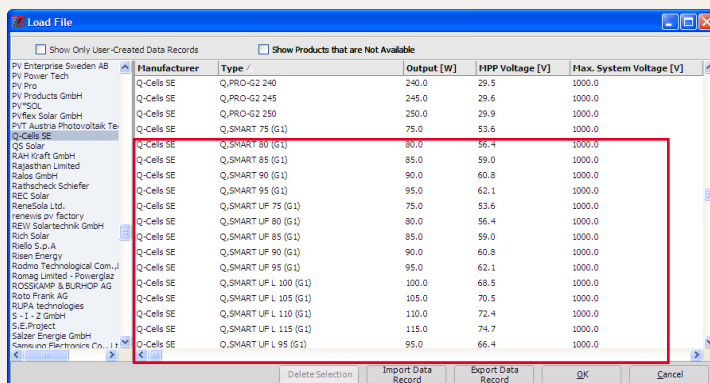

Fig. 1: Select data sets for Q.SMART solar modules
- Option 2: Contact the Technical Customer Service of the Q-Cells SE (service@q-cells.com). Unzip the zipped file (*.zip) in its own folder on your hard drive Load the data sets in PV*Sol via Libraries / PV module / Load /Import (Fig. 1).